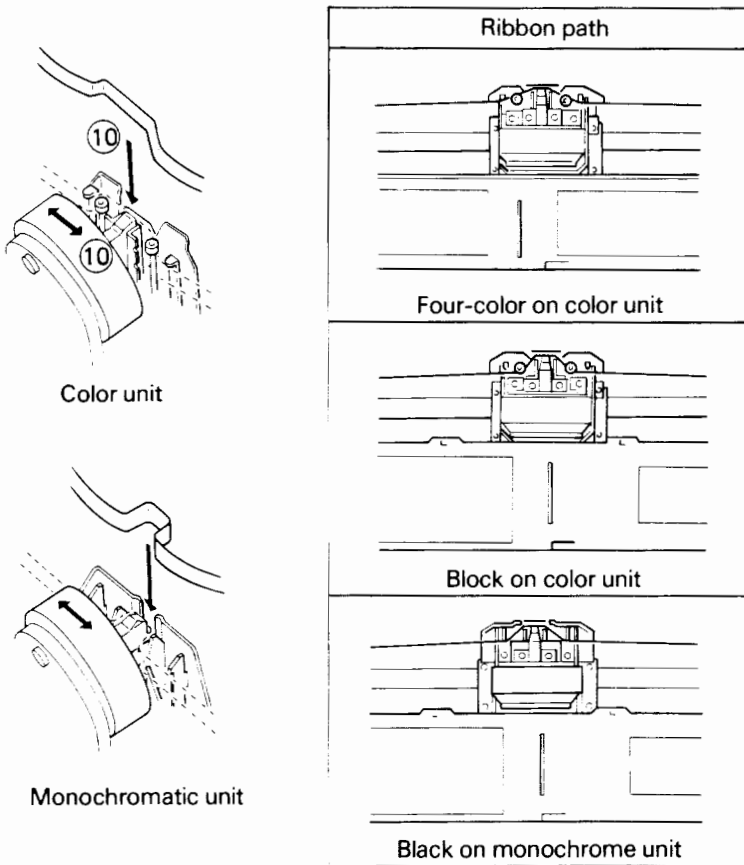

Figure 2-4 Ribbon path
9. Guide the ribbon through the ribbon guide shafts on the print head (Figure 2-4).